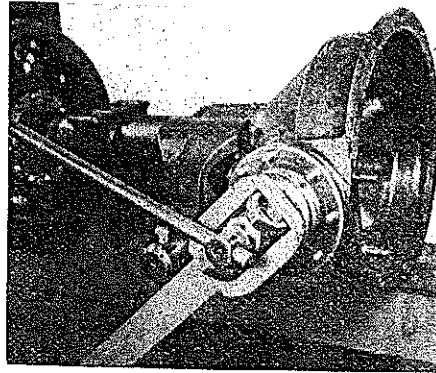

Fig. 162 Secure yoke with holding tool and remove pinion shaft nut and washer
1. Secure yoke with holding tool, Fig. 162, and remove pinion shaft nut and washer.